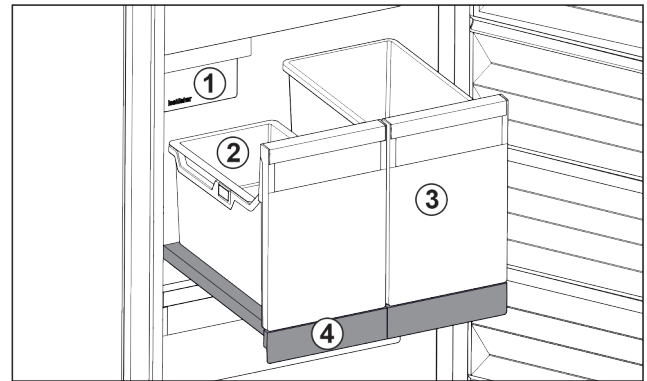

Fig. 94 Pull-out board with IceTower
- (1) IceMaker
- (2) Hang-on tray for ice cubes
- (3) Container for pizza or alcoholic beverages, for example
- (4) Pull-out board
On the pull-out board are two tall containers (IceTower). Ice cubes from the IceMaker are collected and stored in the container Fig. 94 (2). The container Fig. 94 (3) is suitable for storing tall foodstuffs or beverages such as pizzas or alcoholic drinks.